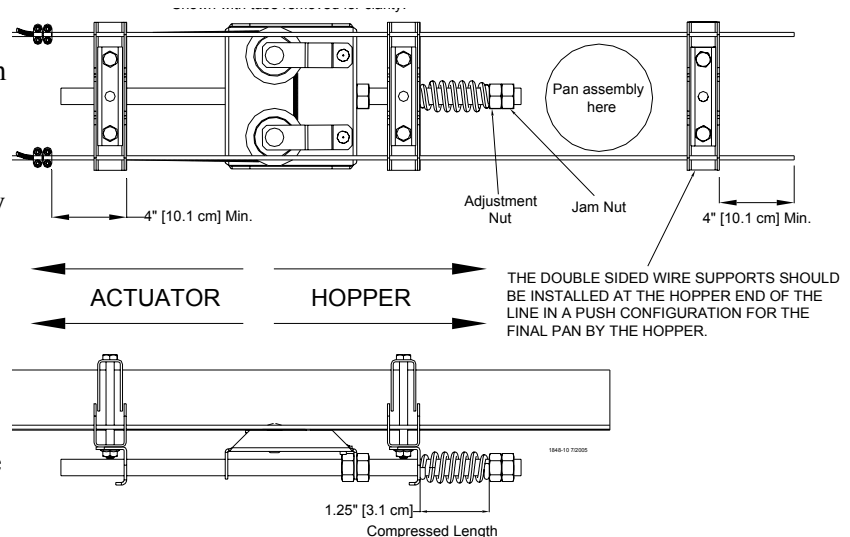

Figure 58. Pulley Assembly
- Install an 1/8" cable around the tension pulley and through the actuator wire support as shown in **Figure 58 and 59**.